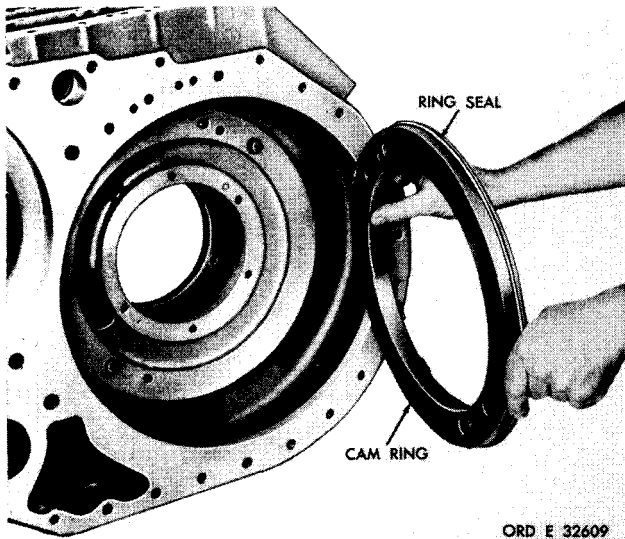

Figure 190. Removing (or installing) left-brake apply cam stationary ring
\*C2 at. Remove left-brake apply cam stationary ring (fig. 190). Do not remove ring seal and expander from ring unless replacement is necessary.
\*C2 d. If ring seal and expander were removed from left-brake apply cam stationary ring, install new replacements (fig. 190).
e. Install the left-brake apply cam stationary ring in the transmission rear housing (fig. 190).